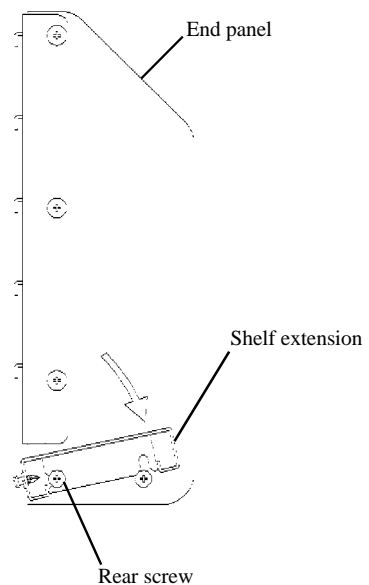

Figure 2
3. Pre-assemble the Shelf Extension to the End Panels. Engage the rear screw first then lower the front onto its screw. Tighten both screws. See **Figure 2**.